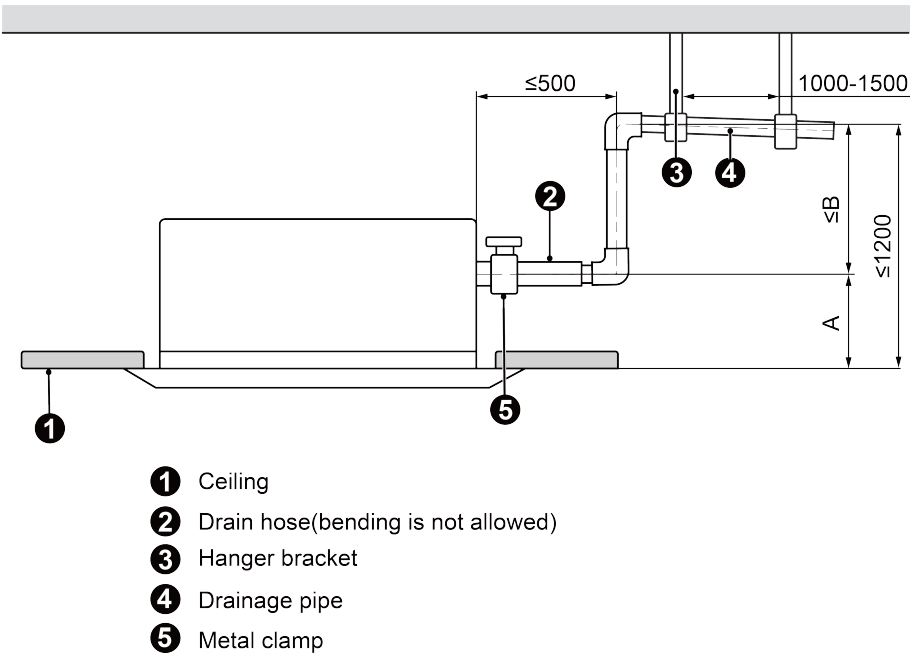

Fig.4.3.3
- (8) The installation height of raising pipe for drainage should be lower than B. The gradient from raising pipe towards drainage direction should be at least 1%~2%. If the raising pipe is vertical with the unit, the raising height should be less than C, as shown in Fig. 4.3.3.